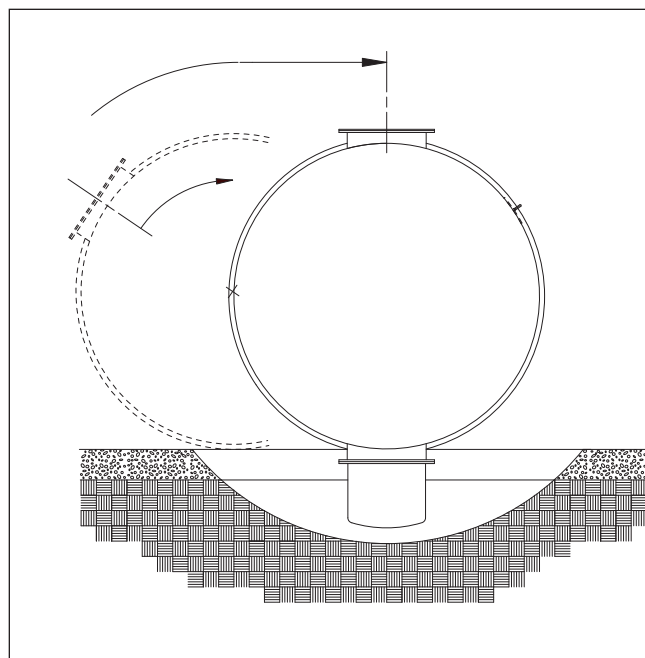

FIGURE 10-1
10.1.3. While preparing the backfill bedding, dig a hole in the bottom of the excavation that is large enough to accommodate the sump or fitting. See FIGURE 10-1.